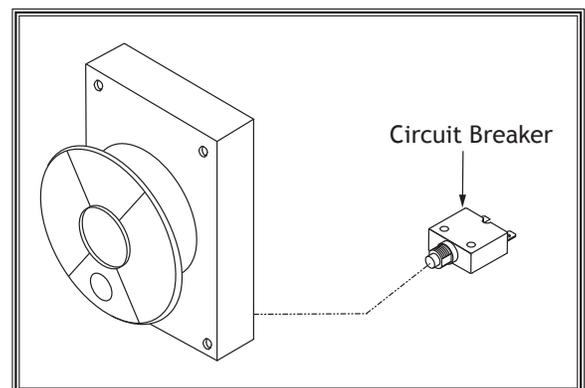

Figure 8. Location of circuit breaker.
7. Replace pre-installed 20A circuit breaker (see **Figure 8**) with 10A circuit breaker (part #X1888224X), then re-install switch cover.